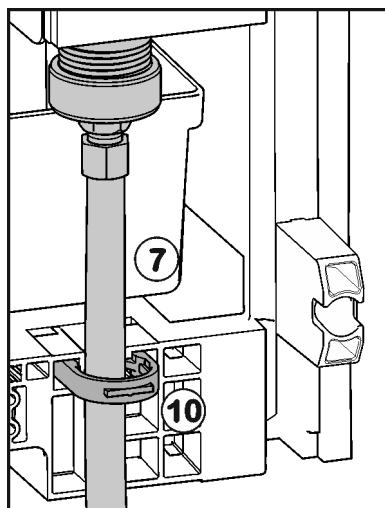

Fig. 19
- ▶ Affix the water supply Fig. 19 (7) to the housing, if necessary, using the locking element Fig. 19 (10).